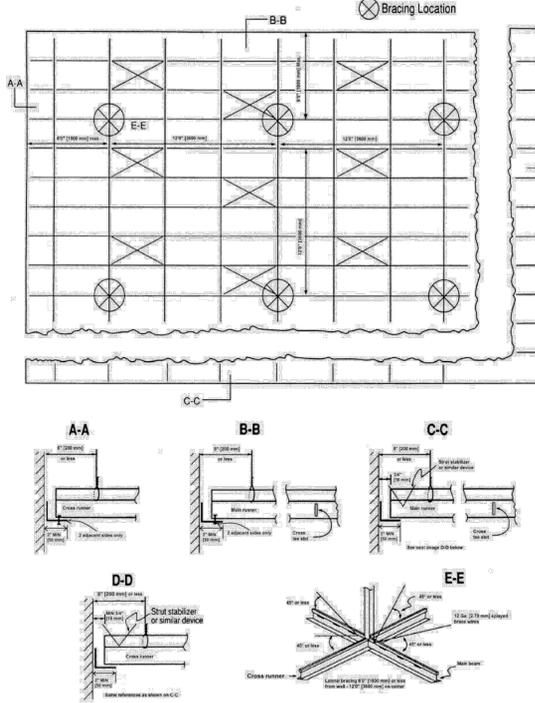

FIG. 4 Categories D, E & F Treatments
5.2.3 Main runner and/or cross runner ends shall be attached to the perimeter on two adjacent walls. A clearance of $\frac{3}{4}$ in. [18 mm] shall be maintained between the main runner and cross runner ends and the perimeter members on the two opposite walls (see Fig. 4, C-C). On the walls where the terminal end runners are not fixed to the perimeter supporting closure, allow for $\frac{3}{4}$ in. [18 mm] axial movement.
5.2.6 The terminal end of each cross runner and main runner shall be supported independently, a maximum of 8 in. [200 mm] from each wall or ceiling discontinuity with No. 12-gauge [2.70 mm] wire or approved wall support. See Fig. 4.
5.2.8.2 Horizontal restraints shall be effected by four No. 12-gauge [2.70 mm] wires secured to the main runner within 2 in. [50 mm] of the cross runner intersection and splayed 90° from each other at an angle not exceeding 45° from the plane of the ceiling. A strut fastened to the main runner at the location of the bracing wires shall be extended to and fastened to the structural members supporting the roof or floor above. The strut shall be adequate to resist the vertical component induced by the bracing wires. These horizontal restraint points shall be placed 12 in. [360 mm] on center in both directions with the first point within 6 ft [1800 mm] from each wall. Attachment of the restraint wires to the structure above and to the main runner shall be adequate for the load imposed. See Fig. 4.